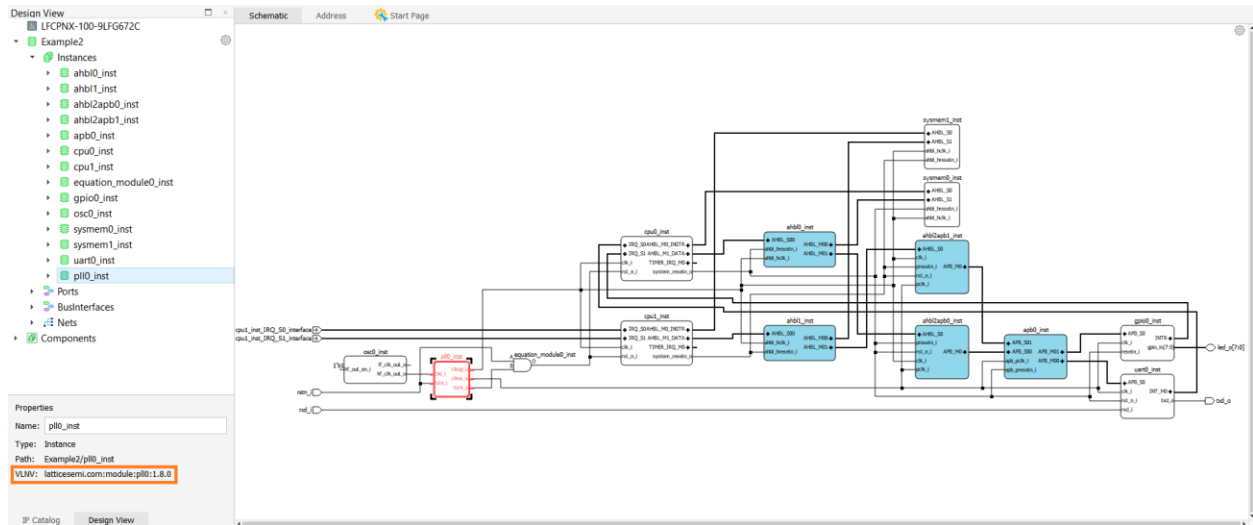
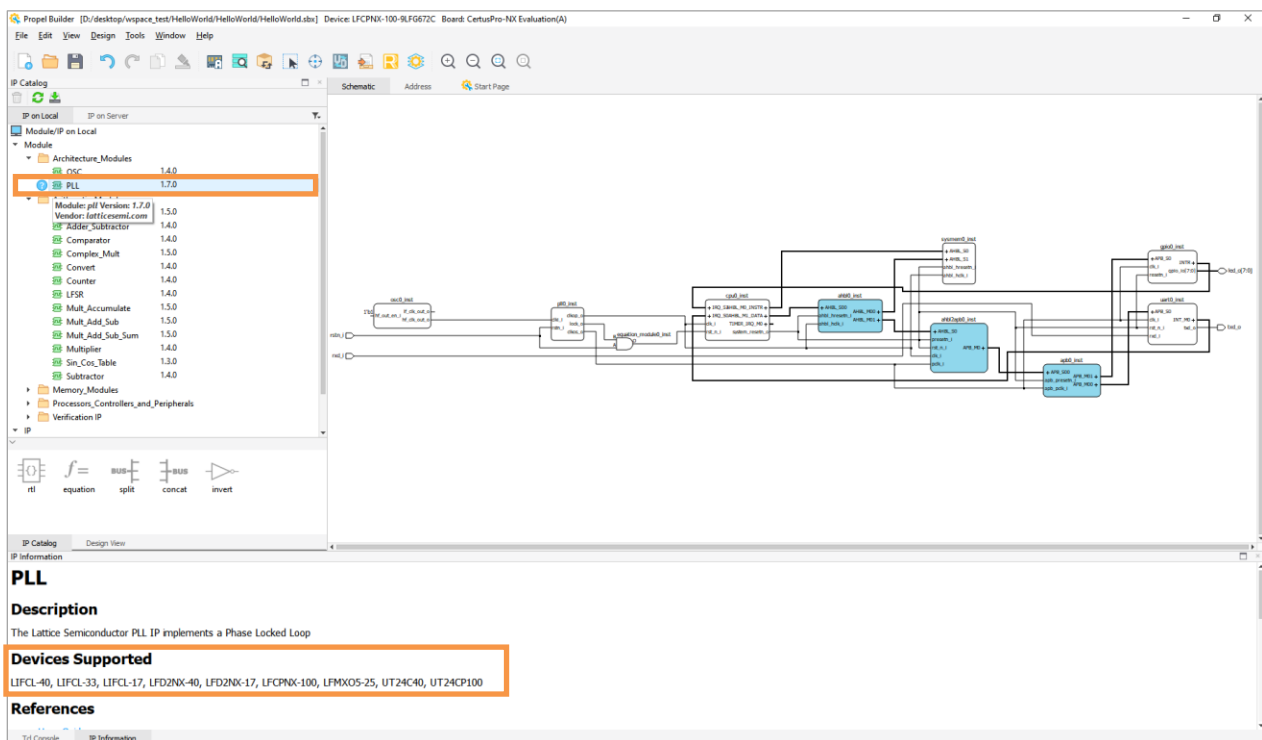

Figure 2.182. Check IP Name in Design View
Figure 2.183. Check Device Supported in IP Information
- Click on an IP instance in **Schematic view**. The **Design View** shows the corresponding information of this IP. Check VLNV for this IP name (Figure 2.182). Go to **IP Catalog** and click on  before this IP to show the **IP Information**. In the **Device Supported** area, all the devices this IP supports are listed (Figure 2.183). Make sure